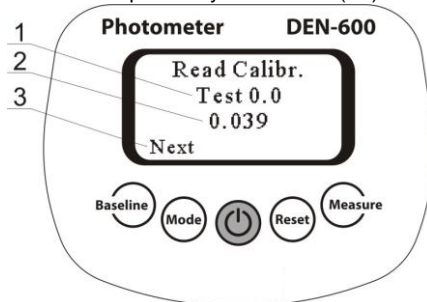

Figure 4. Saved user calibration data
- 5.8. **Saved user calibration data observation (Figure 4).** Press **Mode** key in user calibration regime, then press Next (**Baseline** key) to observe calibrated points and Abs result equivalent to McF in user calibration.